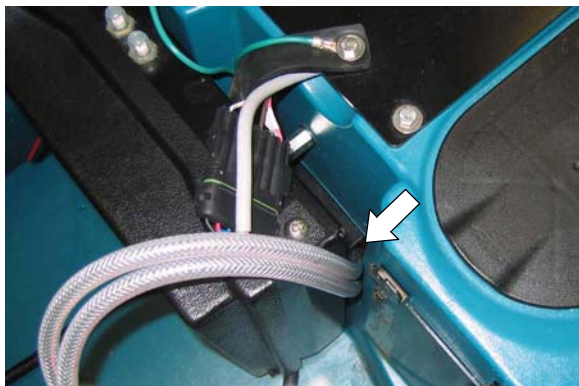

Fig. 16
- Route the two *ec-H2O* module hoses behind the control board box and down towards the scrub head area (Figure 16).